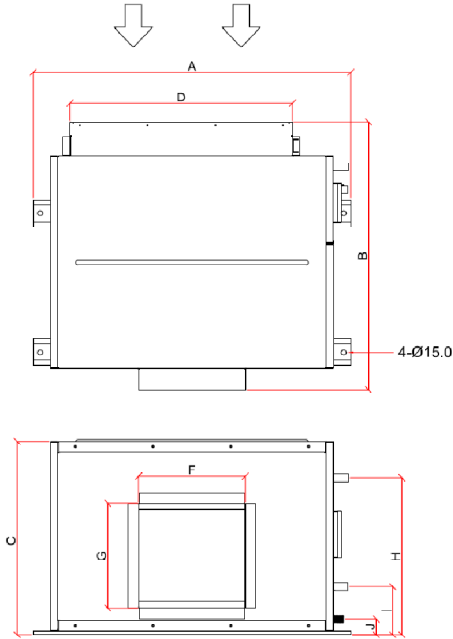

Fig 1
- i. There must be enough space for unit installation and maintenance. Please refer to the outline and dimensions and fig.1 for the minimum distance between the unit and obstacle.
- \* There are holes on the unit leg for hanging. Please refer to Fig.1, Fig.2 and Fig.3.